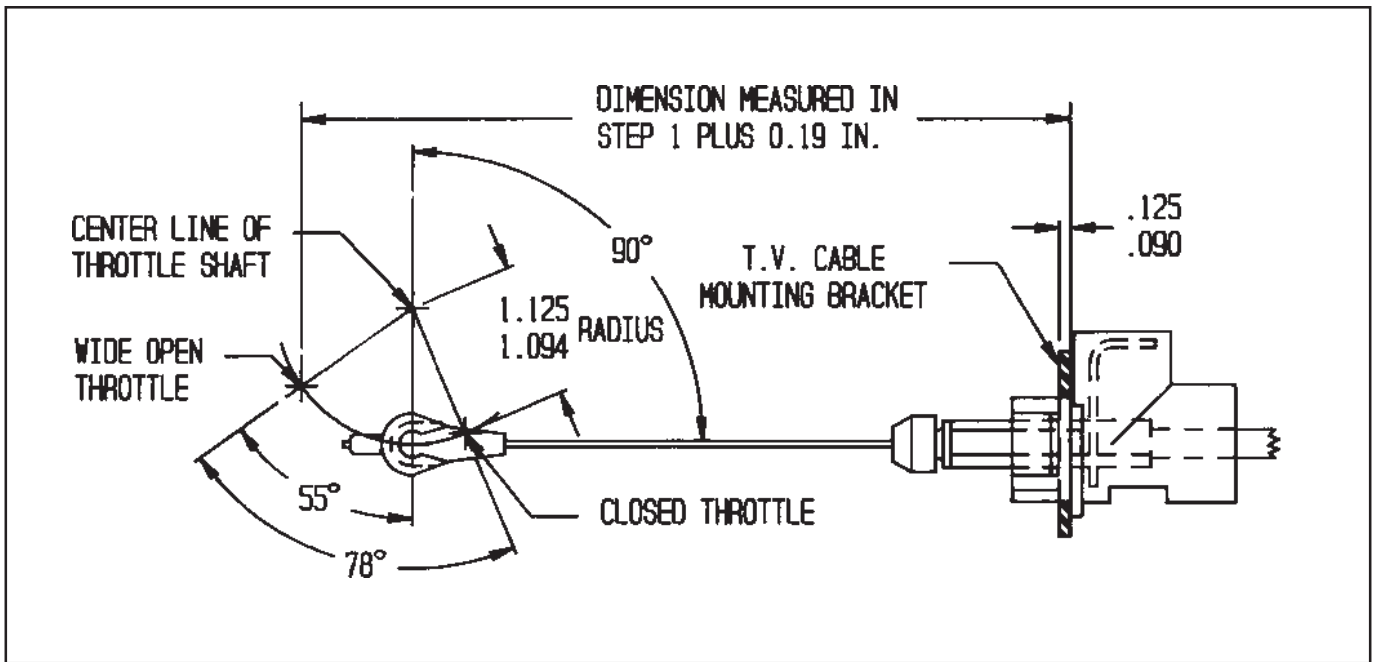

Figure 16
**STEP 2.** Add 3/16" (0.19 in.) to the measurement obtained in Step 1, this is the perpendicular measurement from the REAR FACE of the T.V. cable mounting bracket to the WIDE OPEN THROTTLE position of the T.V. cable connector pin on the throttle bellcrank (See Fig. 16).
**STEP 3.** The T.V. cable bellcrank must be perpendicular (90 degrees) to the T.V. cable when the throttle is 25 percent (1/4) open (See Fig. 16), this geometric relationship is critical to insure that the T.V. mechanism moves in the correct proportion to the throttle opening. The mounting location for the T.V. cable connector pin will have to be established on the throttle bellcrank at a radius of 1.094 / 1.125 in. There may be a suitable existing hole at the correct radius on the throttle bellcrank, otherwise you will have to fabricate an attachment to the bellcrank that will properly locate the connector pin.